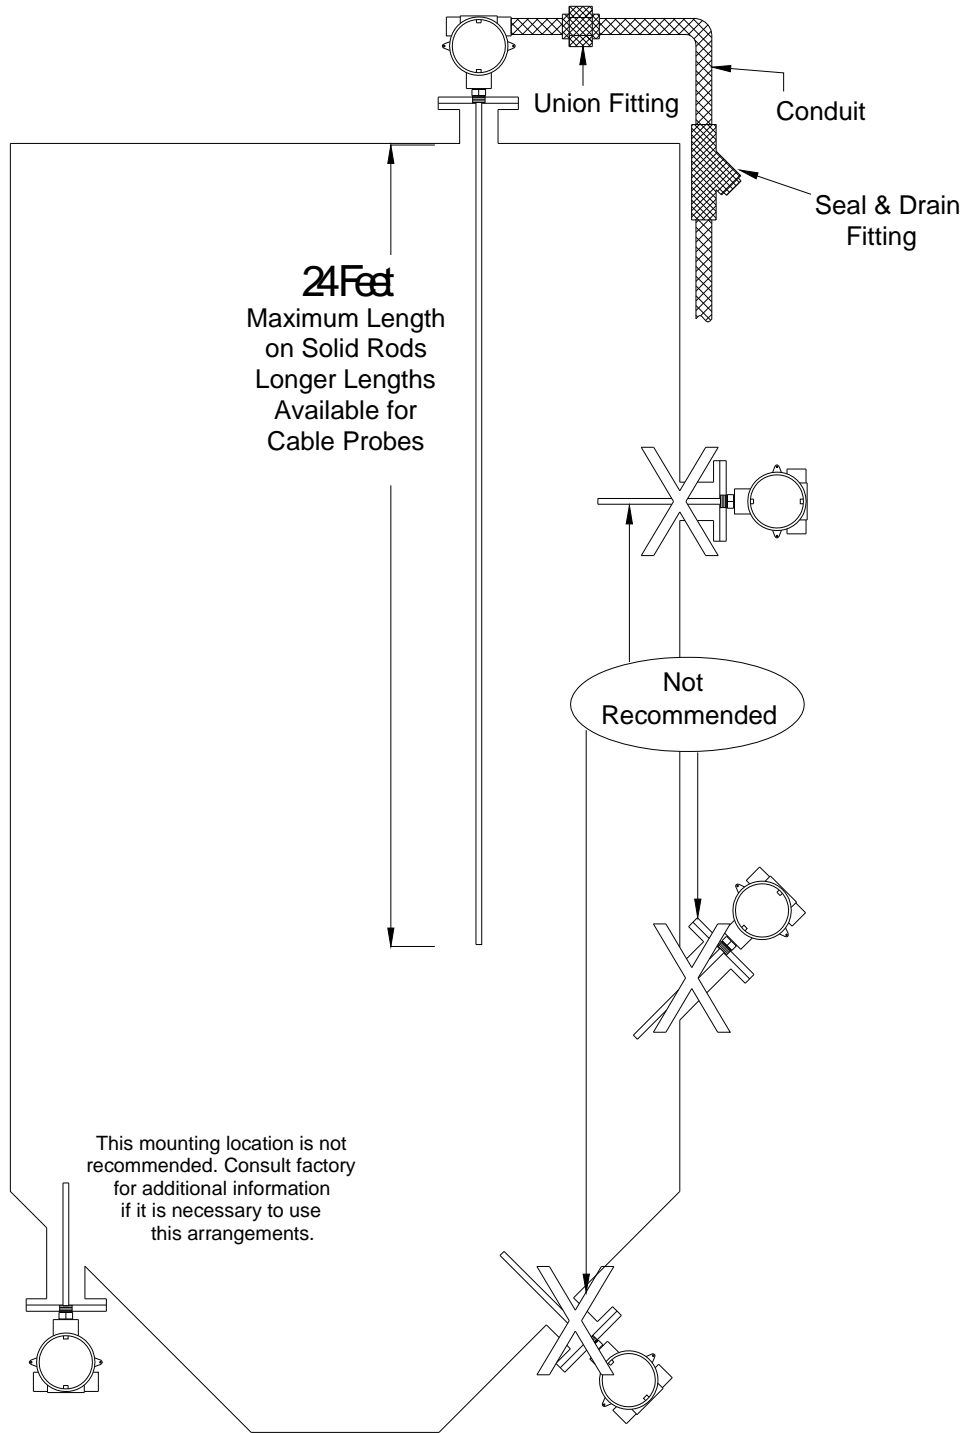

Figure 4.2
- 4.2 Select a mounting location for the Model A33 sensor unit and its attached sensor probe. See figure 4.1 and Figure 4.2 for some recommended mounting practices. Be sure that there is sufficient clearance around the mounting position to allow for the turning radius of the sensor enclosure as the unit is screwed into place. Also, in the case of rigid probes, allow sufficient room to be able to insert the probe into the opening of the vessel. Be careful not to damage any coating that may be on the probe. The thread size of the coupling should be $\frac{3}{4}$ " NPT for most probes. Certain special applications may utilize couplings of different sizes.